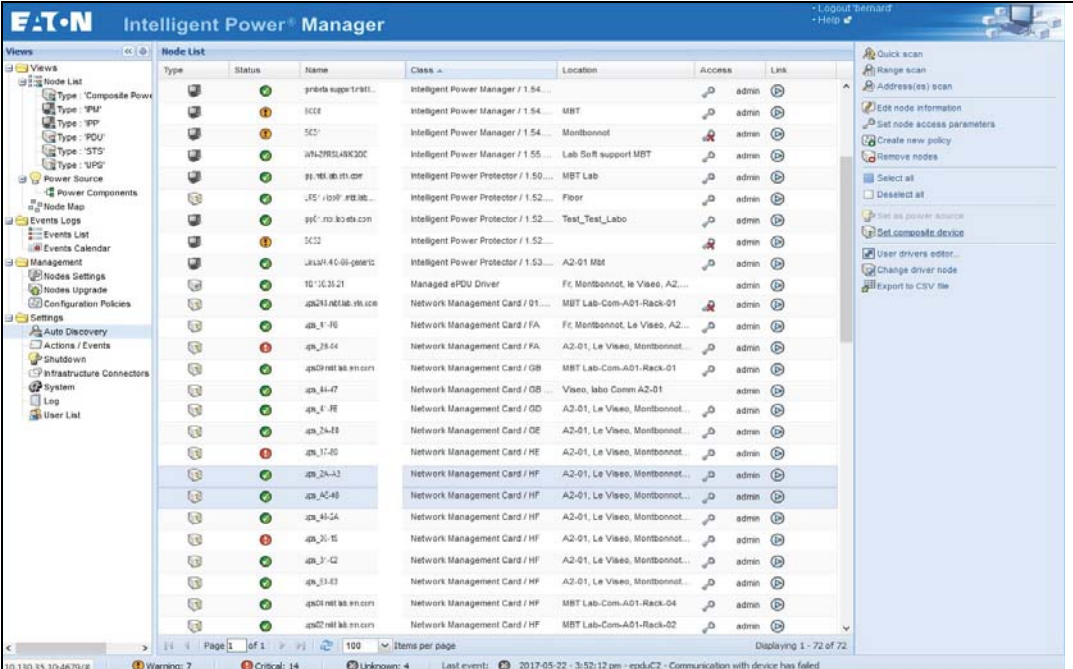

Figure 172. Selecting Set Composite Device for Nodes
4. Click **Set composite device** in the right panel (see Figure 172).
Three actions you can perform on the new node are as follows (see Figure 172):